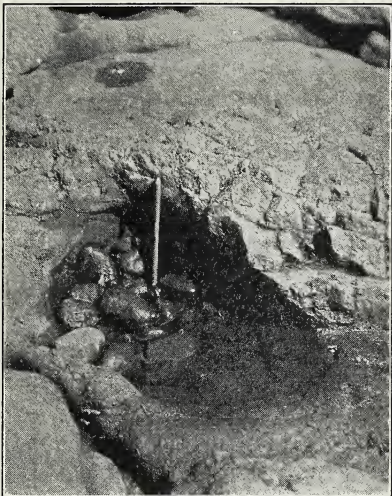

Fig. 521. Potholes made by the cobblestones in a swift stream.
*Work of running water.* Look for brooks and creeks that show the result of weathering action: steep banks, worn banks, pebbles and rounded rocks that are the tools of the stream, "potholes" (Fig. 521) and pools cut by the stream. Look for gullies cut by rains in open fields and banks. Along the sea or lake shore look for cliffs made by the waves, level "benches" under the water, rounded stones worn by the water.